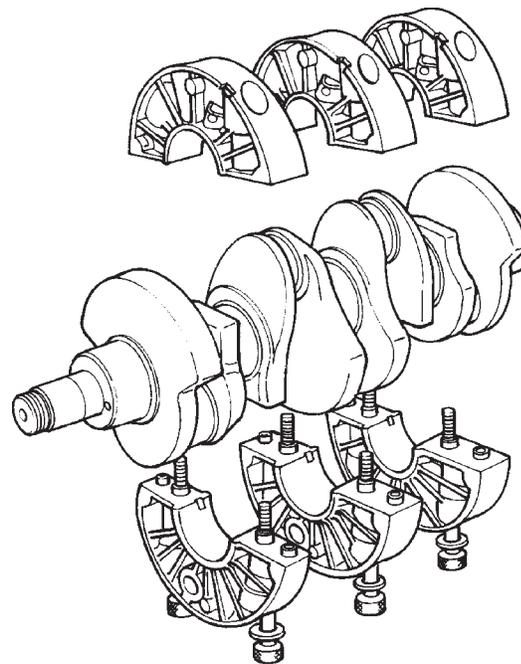
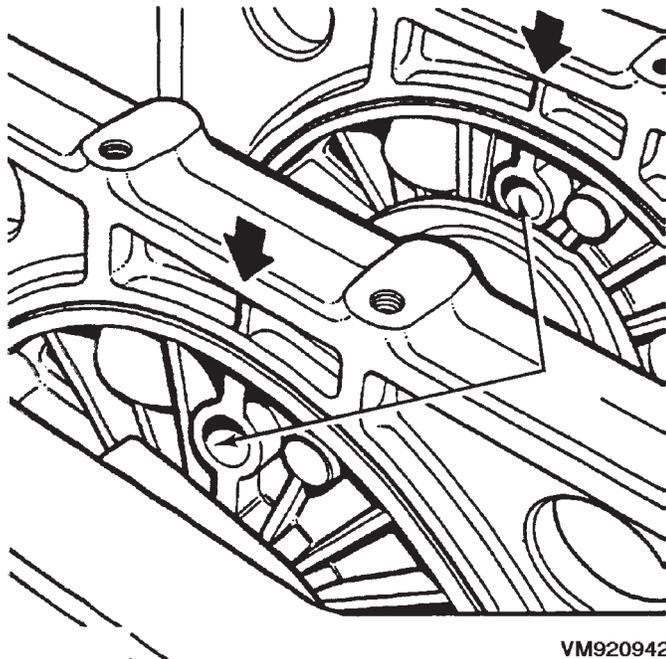

Fig. 55 Crankshaft and Carrier Bearing Assembly
Fig. 56 Main Bearing Carrier Alignment
- (23) Separate the two halves of each carrier, remove from the crankshaft and temporarily re-assemble the carriers (Fig. 55). Withdraw the crankshaft through the rear of the crankcase.
(1) Thoroughly clean crankcase and oil passages, and blow dry with compressed air.
(2) Install new main bearing shells in each of the carrier halves. Assemble the carriers to the crankshaft journals, ensuring that the carriers are installed in their original locations. Secure each carrier with the two bolts tightening evenly to 42 N·m (31 ft. lbs.) (Fig. 55).
(3) Slide special tool (VM-1002) over the crankshaft gear and, insert the crankshaft and carrier assembly into the crankcase in the same manner used for removal.
(4) Align the holes in the lower carriers, with the center of the crankcase webs (Fig. 56).